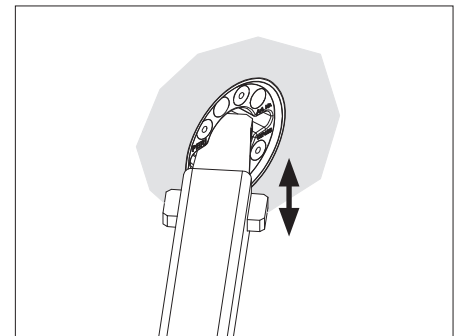

Fig. D1.04b
3. Insert pointed side of wrench (43.1) into the guide groove of the Magnet Cone from the left, and clean the slot. (Fig. D1.04b)